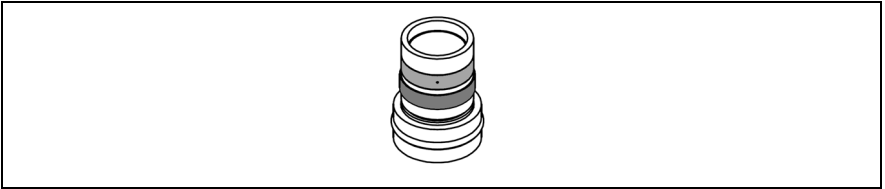

Fig. 5: Position of the rings
- ▶ Ensure that the 2 hose rings are in the correct position (see *Fig. 5*, p. 17).